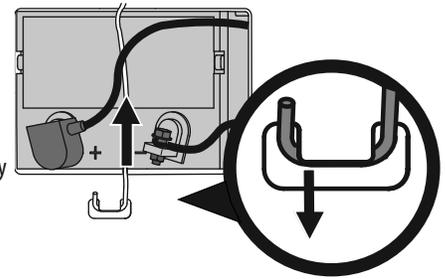

Figure 22
1. Remove the battery hold down bracket by pushing the hooked end out of the tab on the fender to the right side of the battery. Then flip the battery hold-down bracket up to free the battery. See Figure 22.